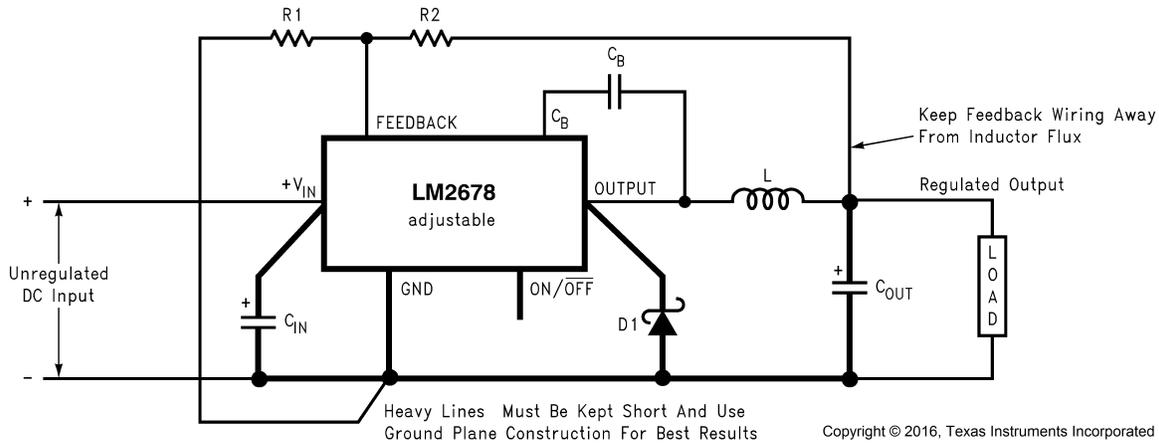

Figure 22. Basic Circuit for Adjustable Output Voltage Applications
Step 2: Select an LM2678S-ADJ. To set the output voltage to 14.9-V two resistors need to be chosen (R_1 and R_2 in Figure 22). For the adjustable device the output voltage is set by Equation 1.